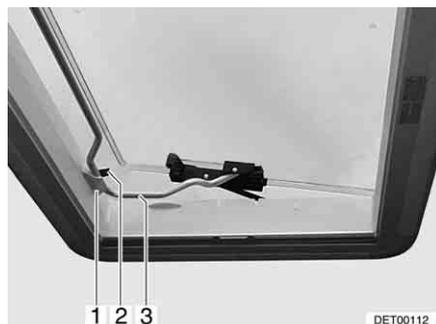

Fig. 74 Heki skylight in ventilation position 2
- Insert the bar (Fig. 74,3) into the holder (Fig. 74,1).
- Place the lever (Fig. 74,2) over the bar.